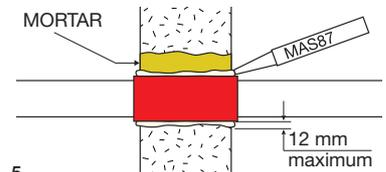

Fig. 5
D. Gaps around FireBrake of up to 12mm should be made good with MAS87 Acoustic Intumescent Mastic to provide both a complete smoke seal and a reduction in sound transmission through the duct system (fig.5).